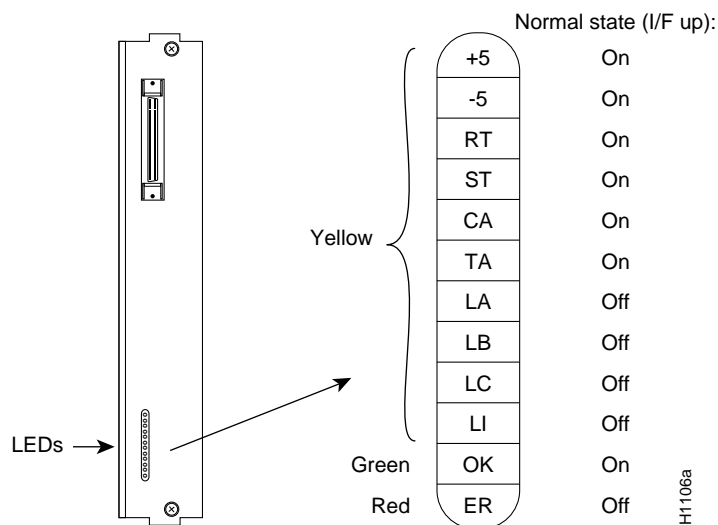

Figure 5 APP-HSA and APP-ULA Indicators
The APP-HSA and APP-ULA appliques contain a bank of 12 LEDs which report the state of the HSSI interface. Figure 5 shows these LEDs and the normal operating state of each. The green OK indicator comes on after the software has performed its startup verification. The red ER indicator comes on if any of the internal cables (between the HSCI and the applique) are crossed.
Step 5 Ensure that the green OK indicator on the applique (the second LED from the bottom) is on. (See Figure 5.) If it is not on, check the following: